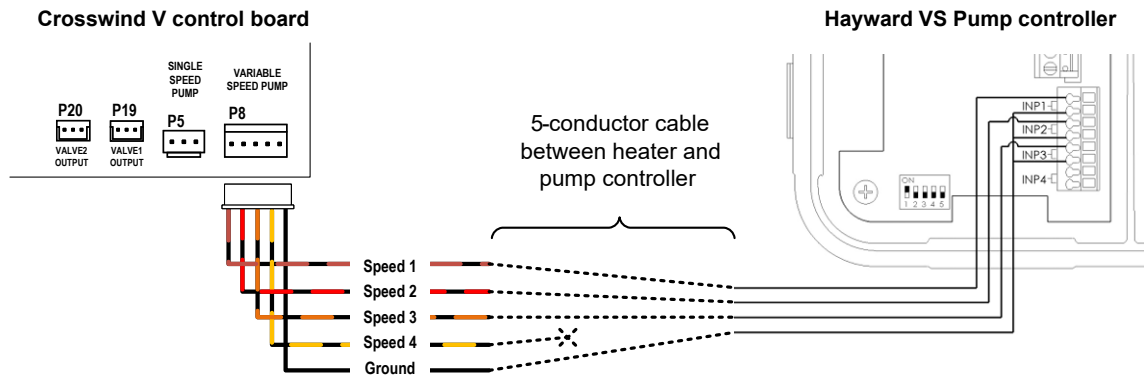
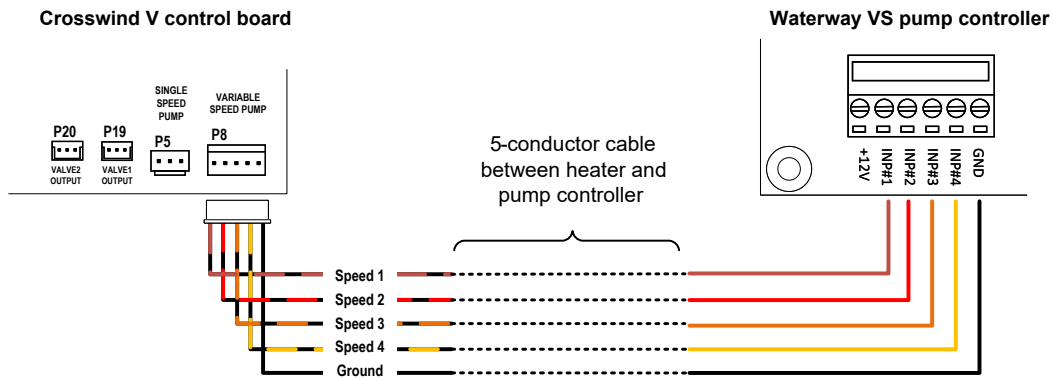

Figure 146. Hayward THP VS Pump Family
Figure 150. Waterway Power Defender VS Pumps with Discrete Switch Inputs
3. Connect the other end of the 5-conductor cable to the digital input terminals on the variable-speed pump controller or the digital to RS-485 pump control interface. Figure 146 through Figure 150, provide examples of connections for certain variable-speed pump brands and models. Please refer to the installation and configuration manual of your variable-speed pump for more details on connecting and configuring the digital input speed selector.